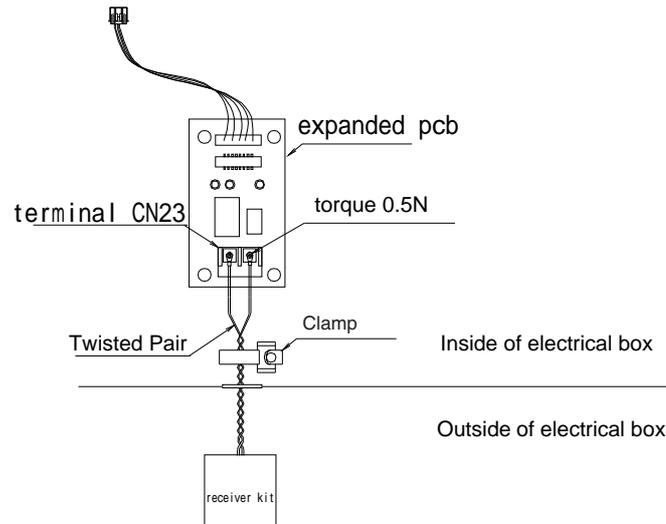

图 1
- As shown in figure 1 below. Connect the receiver kit to terminal CN23 of the expanded PCB.